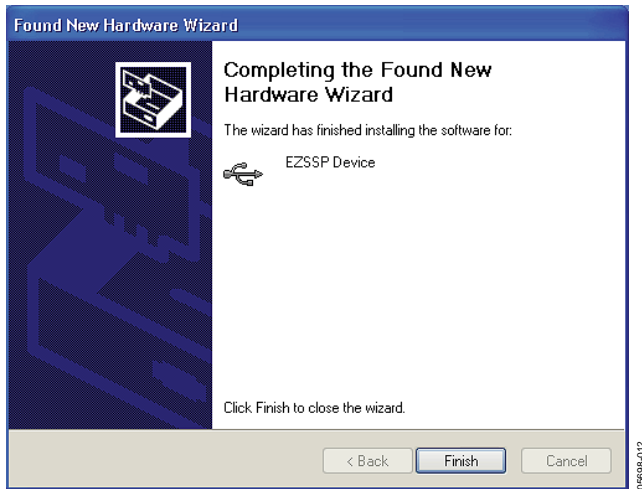

Figure 12.
8. After the window in Figure 12 appears, click **Finish** to exit.